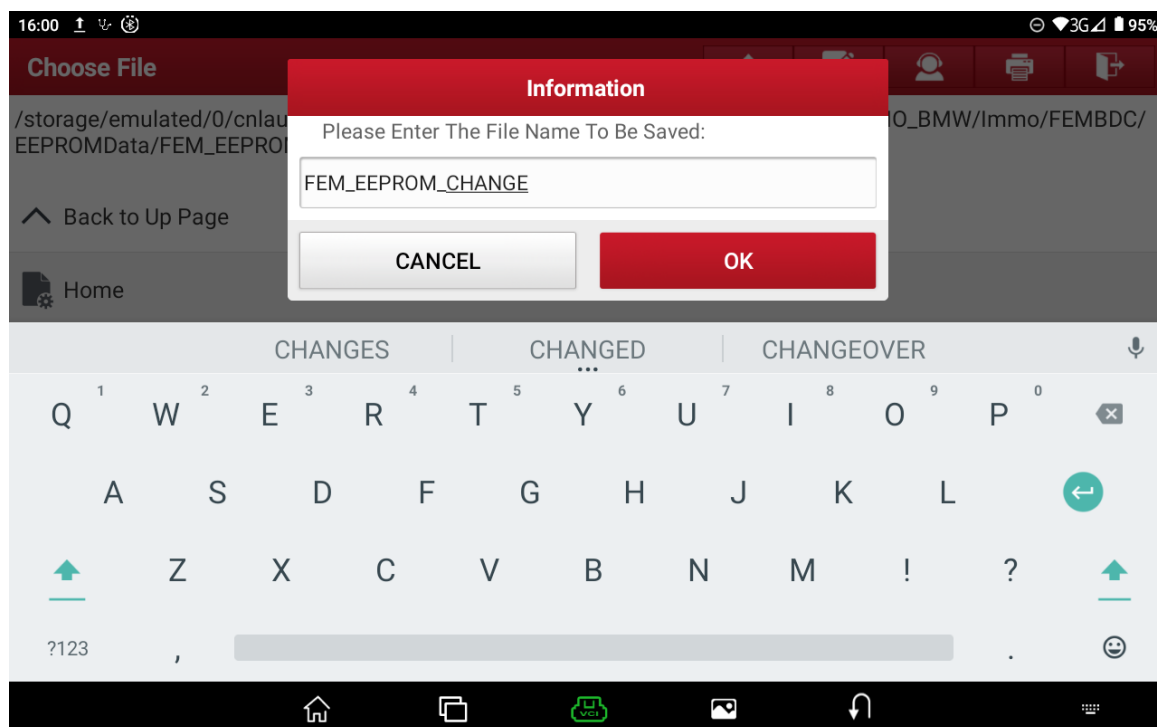

Figure 19
19. Enter the name of the modified EEPROM file and select “OK”, as shown in Figure 19.